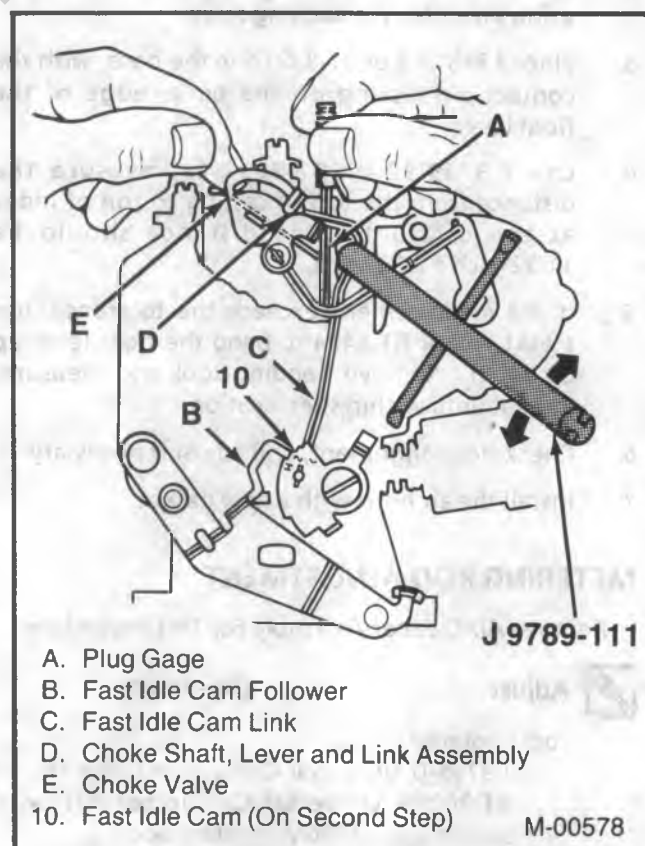

Figure 21 – Choke Link (Fast Idle Cam) Adjustment
**Adjust** (Figure 21)
4. If an adjustment is needed, use J 9789-111 or BT-3006M to bend the fast idle cam link (at the point shown in Figure 21).